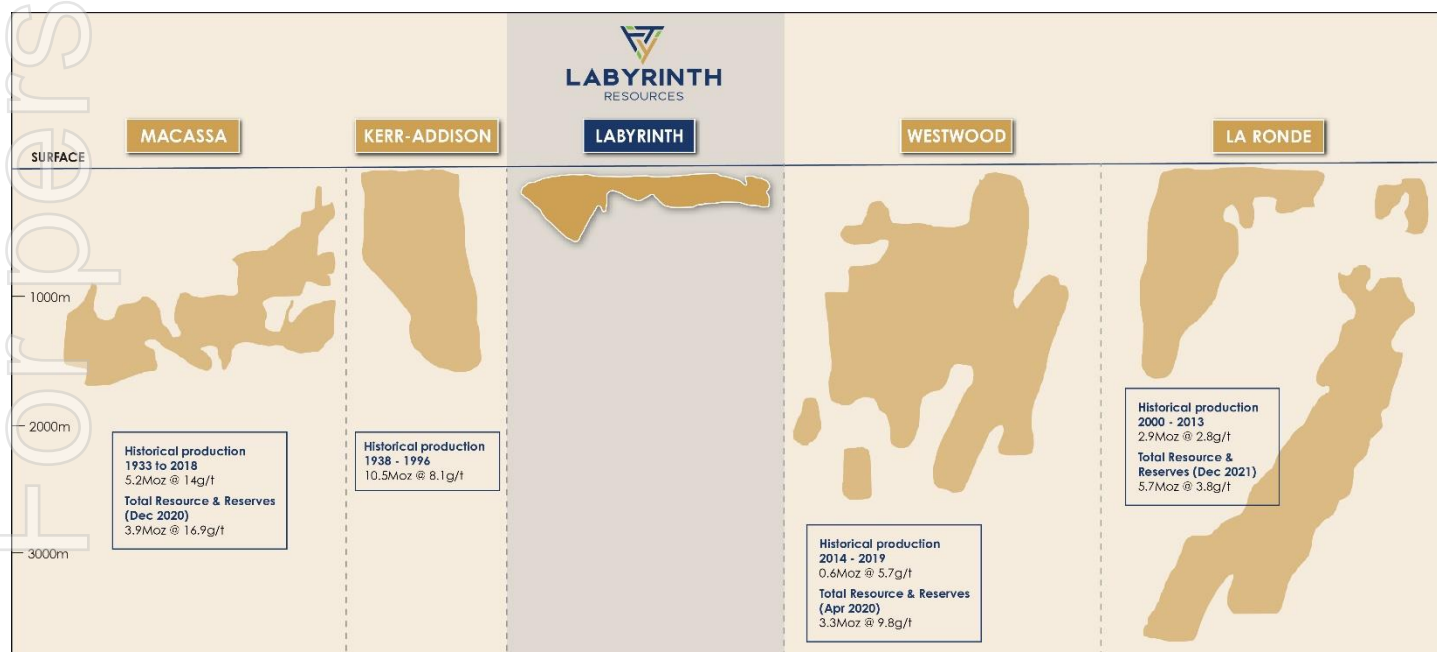

Figure 2 - Significant Gold Projects within 100km radius of Labyrinth¹
- Drilling at Labyrinth remains only shallow compared to other significant projects in the region, which are host to multi-million ounce deposits (refer figure 2)